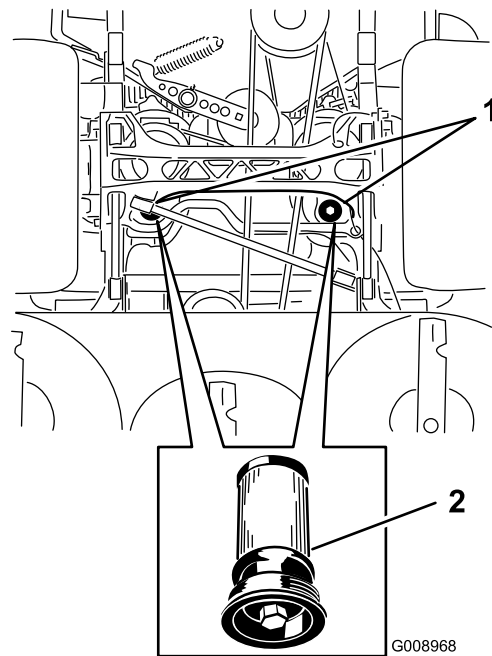

Figure 92
5. Place a drain pan under the filter, remove the old filter, and wipe the surface clean (Figure 92).
6. Apply a thin coat of hydraulic oil to the rubber gasket on the replacement filter (Figure 92).